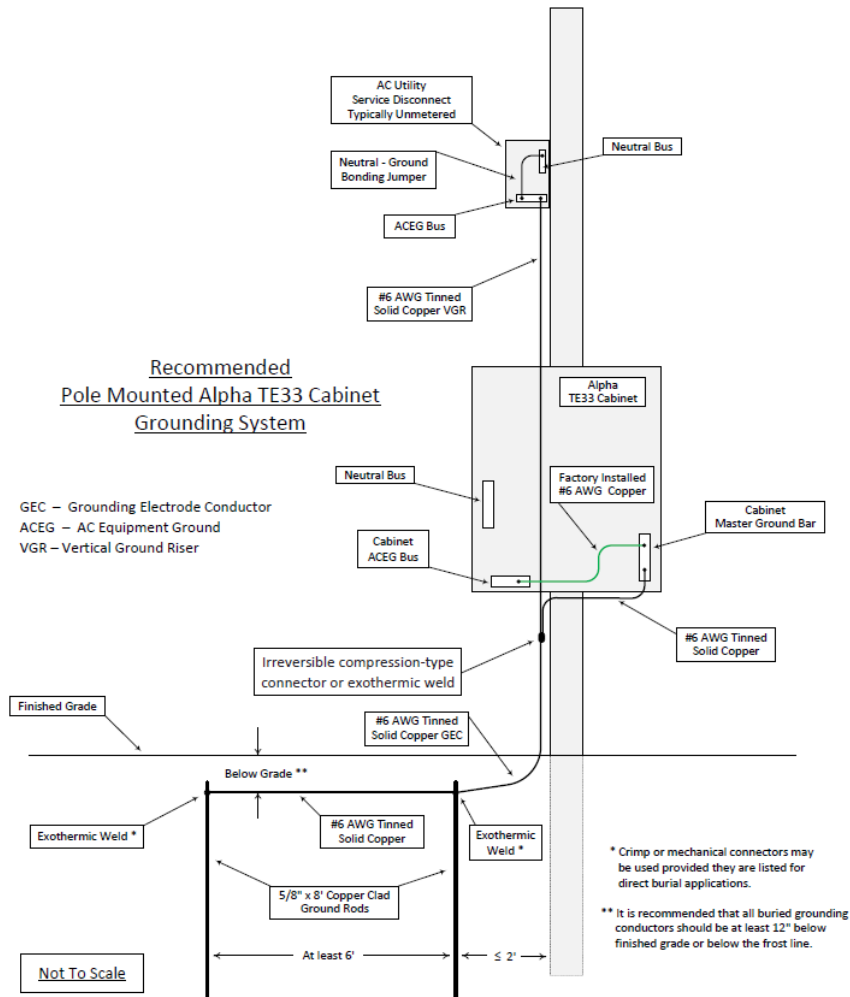

Figure 1 – TE33-1820 RPN Grounding Diagram
1. Install a **continuous** length of #6AWG tinned solid copper ground wire (grounding electrode conductor) connecting the two driven ground rods and terminate it on the ACEG bus in the AC service disconnect enclosure. This length of conductor serves as a Vertical Ground Riser (VGR) (Refer to Figure 1).
Note: Avoid tight radius bends and route the conductor such that it intersects with the VGR in a downward manner as illustrated in Figure 1.